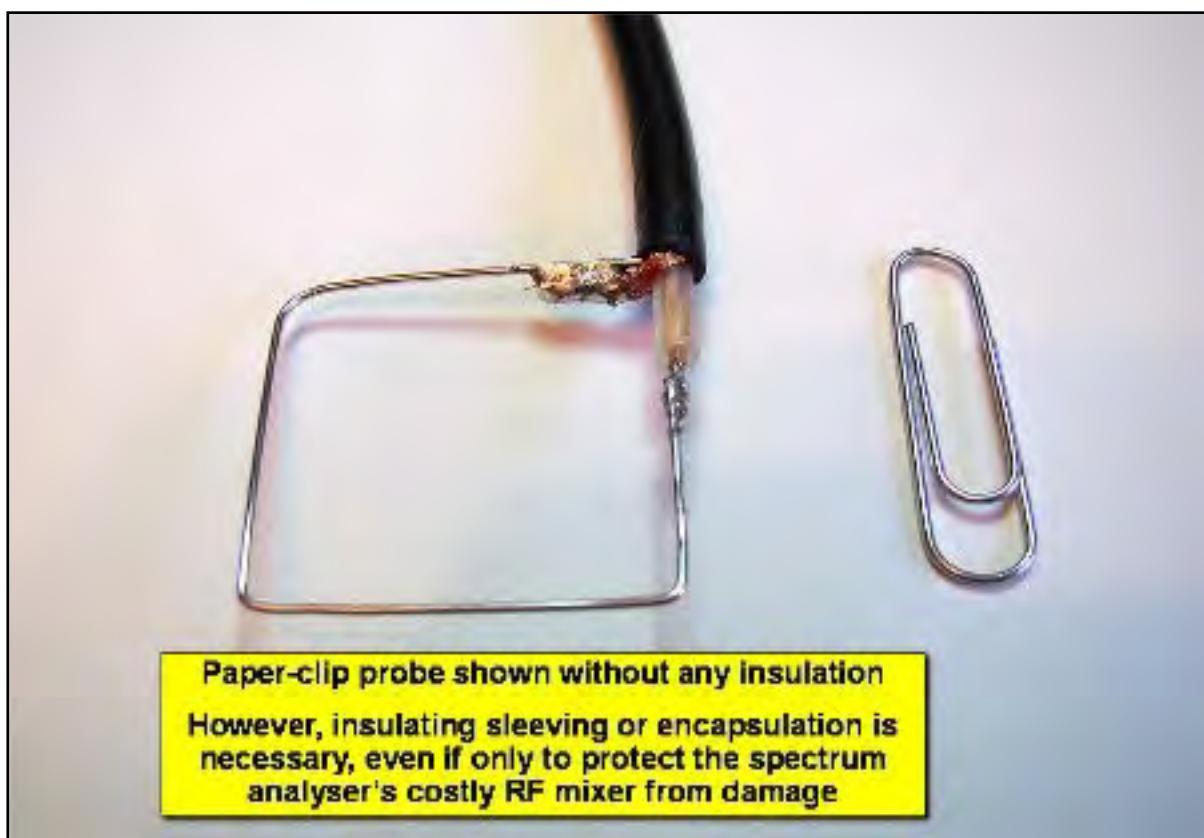

Figure 4 Using a paper clip to make an unshielded close-field probe
I don't plan to discuss electric-field close-field probes in this article, because as yet I have no real experience with them. But I often use unshielded loop probes (like the paper clip probe in Figure 4) when searching for 'leakages' and 'weak spots', because they pick up electric (E) fields as well as magnetic (H) fields. When we don't know the nature of a possible leakage (i.e. whether it leaks E or H fields) using an unshielded loop probe can help save time in locating it.